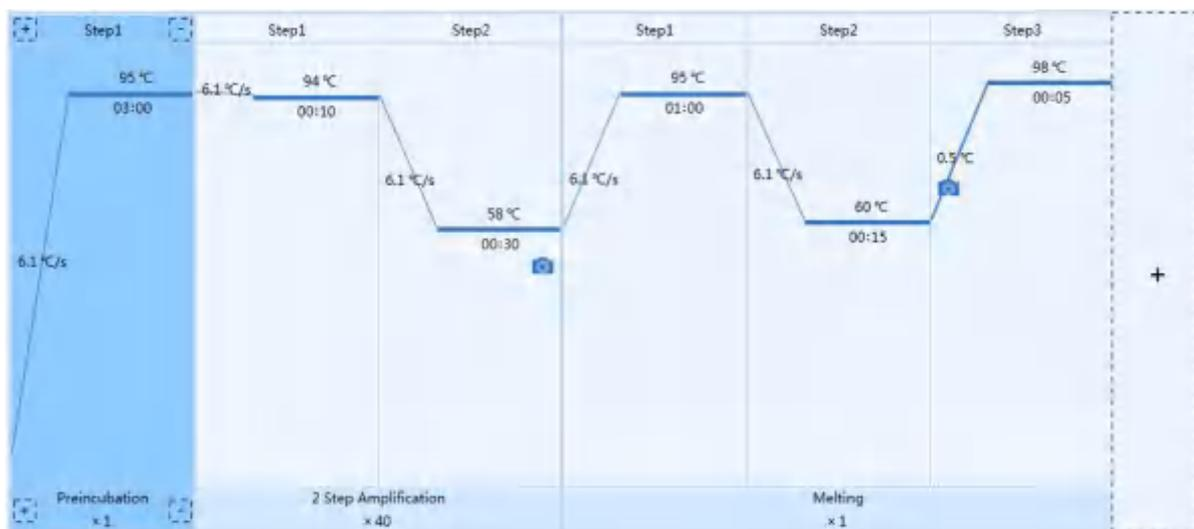

Figure D-4.1 Temperature program area – Example temperature program
- 1. Temperature program area:** user can view the temperature program of the current experiment, or edit its stages and steps in this area, as shown in figure D-4.1.